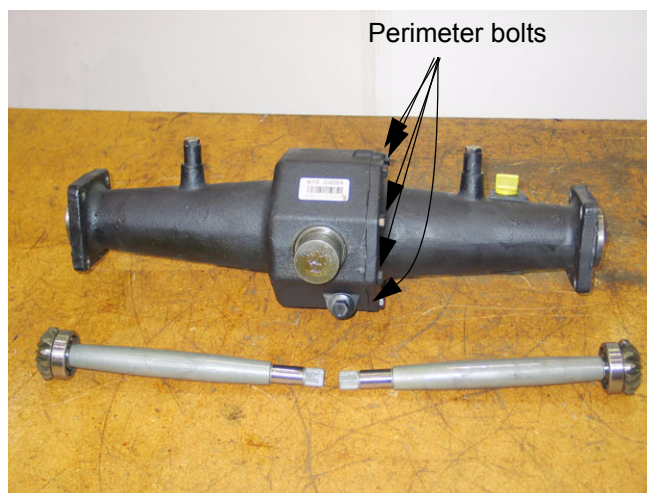

Figure 9.7
9.7. The axles, outer axle bearings, 14 tooth bevel gears, and washers can be removed from the MFD at this point. See Figure 9.7.